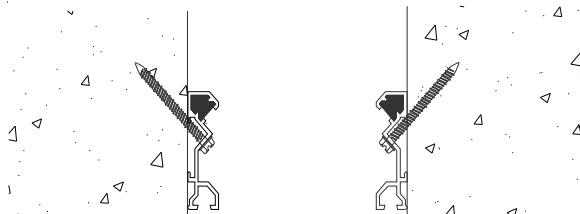

Figure 9
STEP 16. Fill the back seal retainer tracks of the installed base members with silicone sealant (by others) as illustrated in Figure 9.